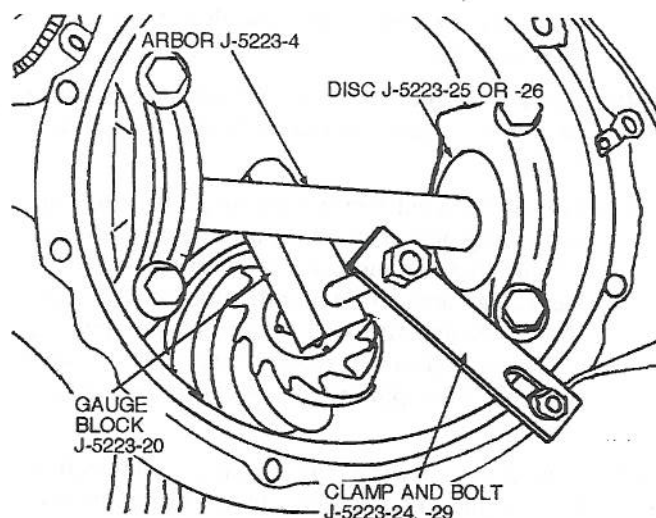
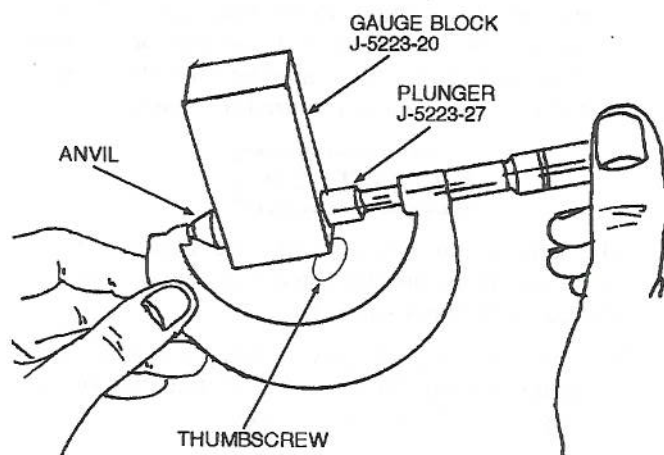

Figure 5-131. Installing Pinion Depth Gauge Tools
Figure 5-132. Measuring Gauge Block
- (12) Assemble gauge arbor #J-5223-4 and discs #J-5223-25 (figure 5-131), and install in differential bearing cup bores. Be sure discs are firmly seated in bearing cup bores.
- (13) Install carrier caps over discs and tighten cap bolts securely.
- (14) Remove standard plunger from gauge block #J-5223-20 and install plunger #J-5223-27 (figure 5-132).
- (15) Compress plunger completely and tighten gauge block thumbscrew securely.
- (16) Install gauge block #J-5223-20. Position block so plunger is directly under gauge arbor #J-5223-4 (figure 5-131) and flat surface on anvil side of block.
- (19) Loosen gauge block thumbscrew and release plunger. When plunger contacts arbor tool, tighten thumbscrew to lock plunger in position. Do not disturb plunger position.
- (20) Remove clamp and bolt from rear axle housing (16).
- (21) Remove gauge block and measure distance from end of anvil to end of plunger using 3 inch micrometer (figure 5-132). This dimension represents measured pin depth. Record this measurement for assembly reference.